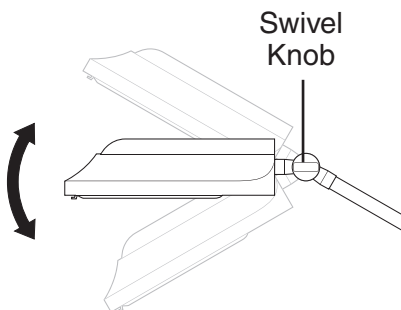

Fig. 7
3. To adjust lamp head angle up or down – loosen swivel knob counterclockwise, place head at desired angle, tighten swivel knob to secure. (Fig. 7)